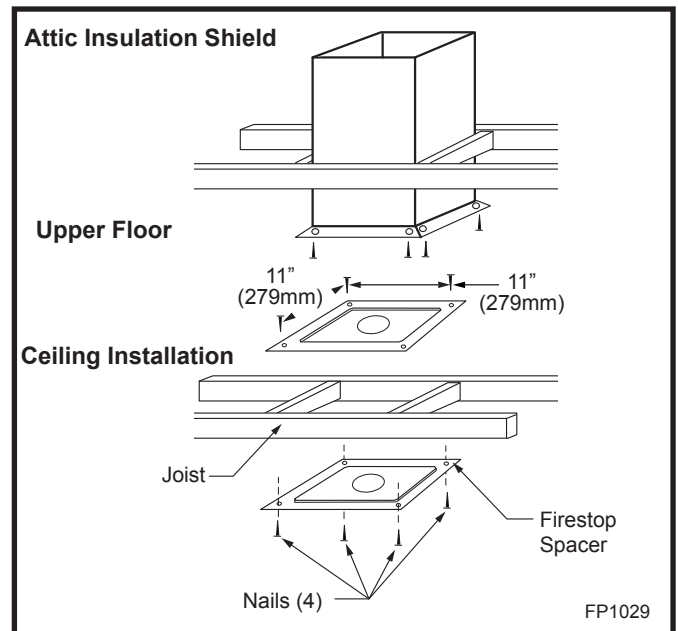

Fig. 26 Place firestop spacer(s) and secure.
6. Place firestop(s) #7DVFS or Attic Insulation Shield #7DVAIS into position and secure. (Fig. 26)